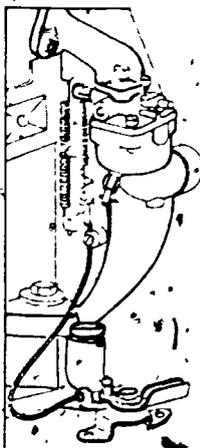

FIGURE 1
C. Check the condition of the linkage and controllers (Figure 1)